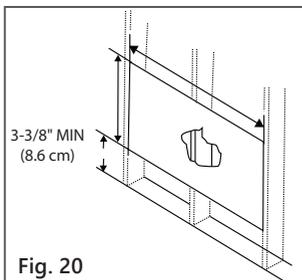
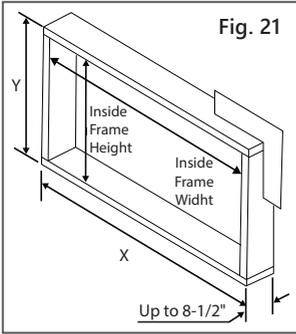

Fig. 20
Fig. 21
3. Measure between inside edges of every other stud as shown in Fig. 20.
See Fig. 20 and Fig. 21.